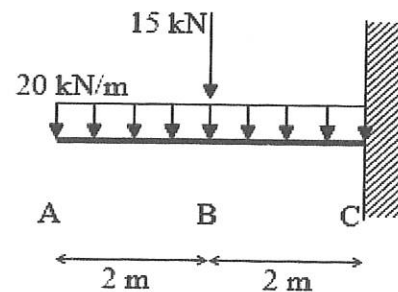

Figure 3 / Rajah 3
- (b) Figure 3 shows a cantilever beam. Calculate the reaction force at the support and draw the Shear Force Diagram.